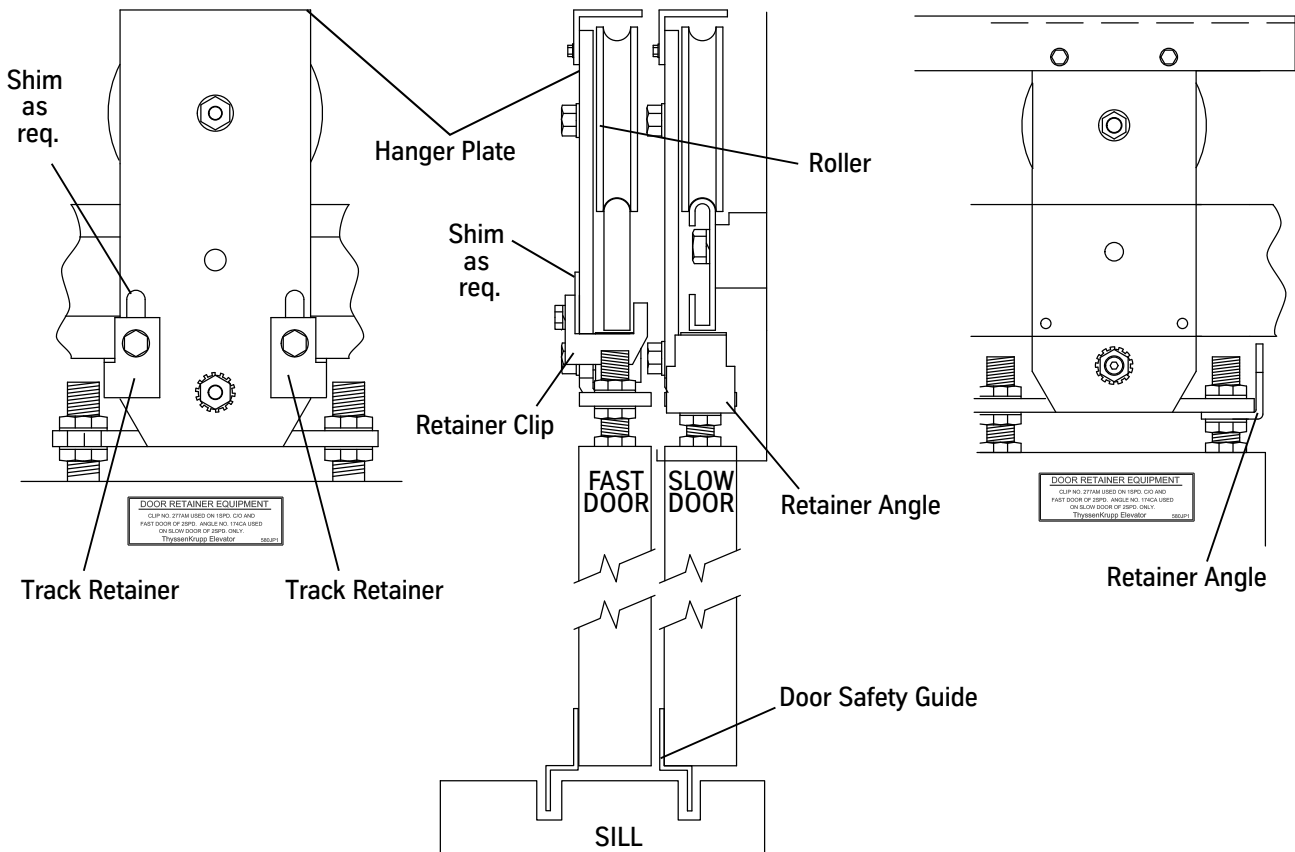

Figure 41 - Top Door Retainer
1. On each side of the door panel, use the provided hardware to install a top door retainer on the hanger. See Figure 41.